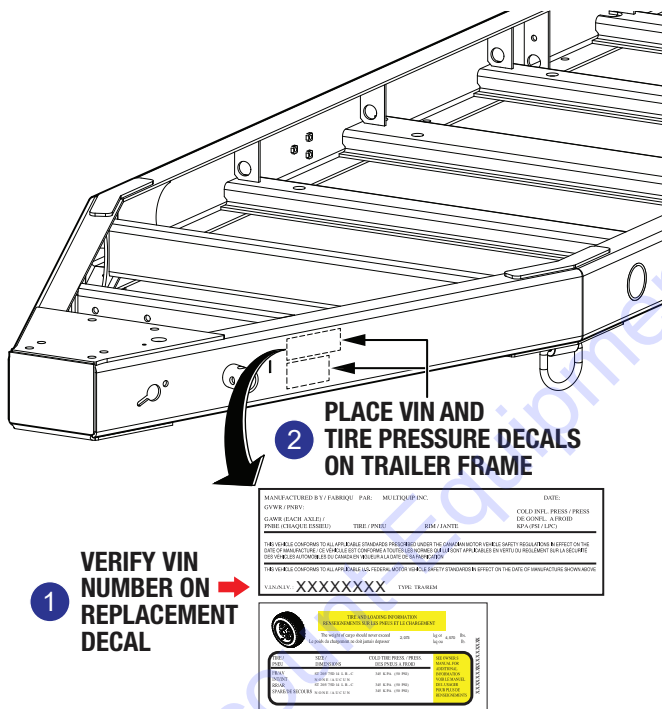

Figure 8. Decal Replacement
3. Place the replacement VIN and tire pressure decals onto the trailer as shown in Figure 8.